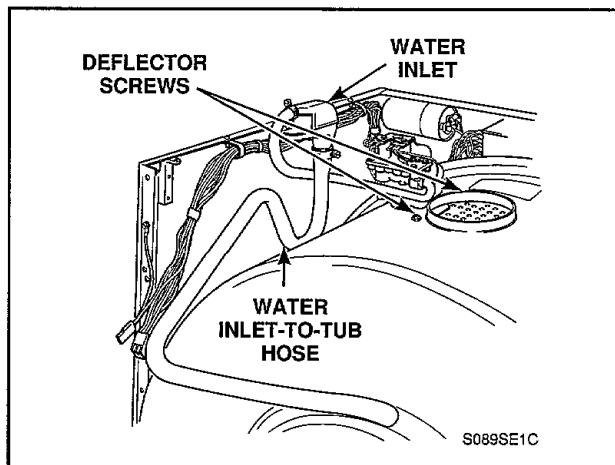

Figure 40
- Loosen hose clamp and disconnect water inlet-to-tub hose from water inlet, *Figure 40*, and pressure hose from pressure switch, *Figure 28*.
- Remove two screws holding water deflector to outer tub, *Figure 40*, and remove deflector out through dispenser opening.
- g. Loosen hose clamp and disconnect water inlet-to-tub hose from water inlet, *Figure 40*, and pressure hose from pressure switch, *Figure 28*.
- i. Remove two screws holding water deflector to outer tub, *Figure 40*, and remove deflector out through dispenser opening.